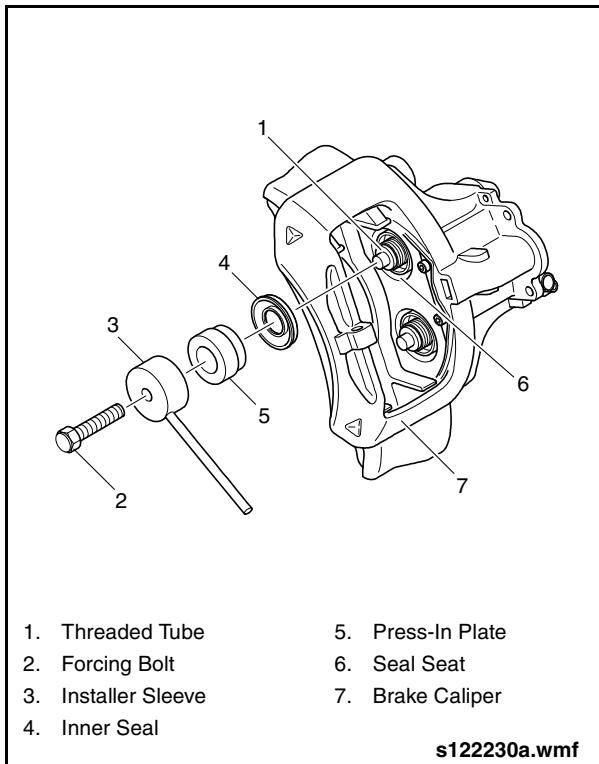

Fig. 1-71: Installing Inner Seal
2. Thread the long forcing bolt into the installer sleeve (Item 82 from special tools list). See "Fig. 1-71: Installing Inner Seal" on page 68.